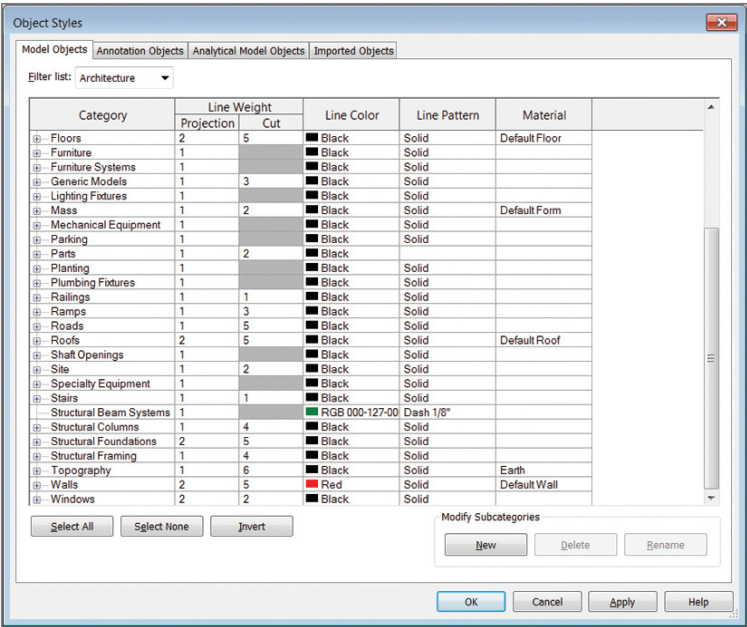

FIGURE 5.1 Categories are listed in the Object Styles dialog box.
- 1. Go to the Manage tab’s Settings panel, and click Object Styles. The categories you see in the Object Styles dialog box (Figure 5.1) are those that are established by the software and cannot be changed. You can use these categories to modify the display characteristics of elements, but you cannot edit the names of categories.